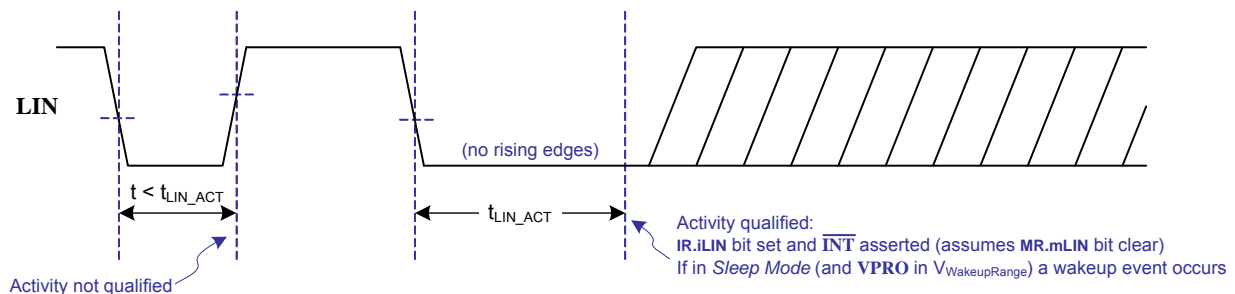

Figure 5-2: LIN Activity Qualification
If the LIN pin override bit (**OR.oLIN** in the *Override Register (OR)*) was previously set to ignore a stuck LIN pin, then any transition from qualified activity to qualified inactivity, or vice versa (i.e. any change of **LSR.LIN**), clears the **OR.oLIN** bit. In a normal operating environment, qualified LIN activity (LIN pin low, or dominant) keeps the MPM85000 in *Active Mode*. If the EHC determines that the LIN pin is stuck low for any reason (e.g. short to ground), then the EHC can set **OR.oLIN** which allows the MPM85000 to revert to *Sleep Mode* when the EHC chooses. If, while in *Sleep Mode*, the LIN pin gets unstuck, then any transitions automatically clear **OR.oLIN** thereby allowing the MPM85000 to wakeup again from LIN activity. Figure 5-2 below illustrates the LIN activity qualification process.